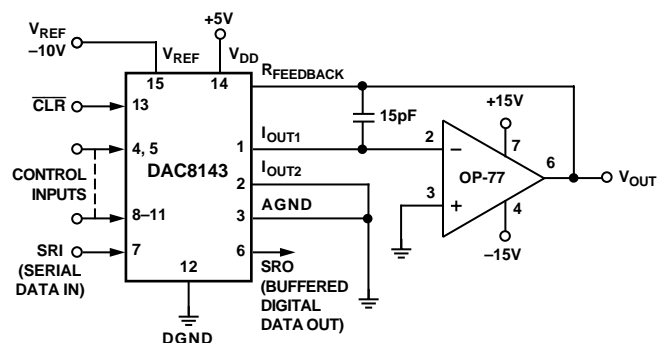

Figure 16. Unipolar Operation with High Accuracy Op Amp (2-Quadrant)
1. Phase compensation (see Figures 16 and 17).
The circuit shown in Figures 16 and 17 may be used with an ac or dc reference voltage. The circuit's output will range between 0 V and +10(4095/4096) V depending upon the digital input code. The relationship between the digital input and the analog output is shown in Table II. The V_{REF} voltage range is the maximum input voltage range of the op amp or ± 25 V, whichever is lowest.
¹Nominal full scale for the circuits of Figures 16 and 17 is given by
²Nominal LSB magnitude for the circuits of Figures 16 and 17 is given by
The transfer function for the DAC8143 connect in the multiplying mode as shown in Figures 16 and 17 is:
In most applications, linearity depends on the potential of I_{OUT1} , I_{OUT2} , and AGND (Pins 1, 2 and 3) being exactly equal to each other. In most applications, the DAC is connected to an external op amp with its noninverting input tied to ground (see Figures 16 and 17). The amplifier selected should have a low input bias current and low drift over temperature. The amplifier's input offset voltage should be nulled to less than $\pm 200 \mu V$ (less than 10% of 1 LSB).